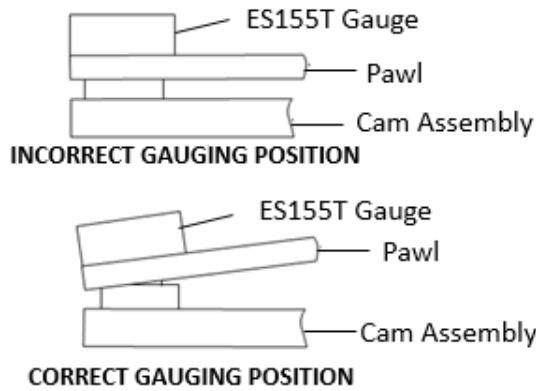

FIGURE 11
- c. Lift the inner edge of the pawl and apply pressure to the pawl to push outward while keeping the edges of the pawl radius and the cam assembly base plate radius in parallel alignment. The inner edge of the pawl must be lifted or the gauge observations will not be accurate. Reference Figure 11.